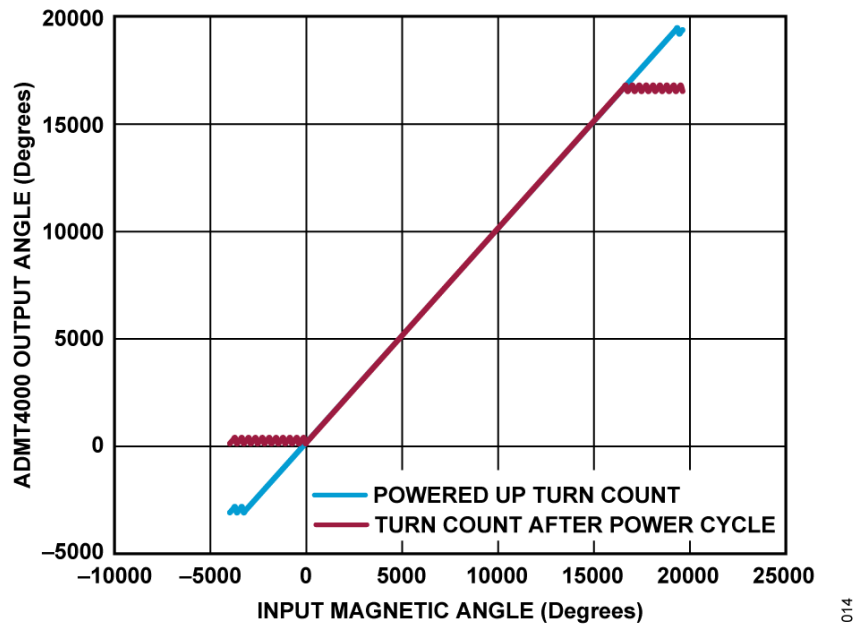

Figure 14. Turn Count Behavior vs. Input Magnetic Field Angle
There are three sensors in the ADMT4000, a GMR turn count sensor, a GMR quadrant detector, and an AMR angle sensor. The initial position is determined by the GMR turn count sensor with subsequent turn count positions derived from the AMR angle sensor combined with GMR quadrant detector. The GMR turn count sensor in the ADMT4000 provides true power-on turn count capability. When powered down, the ADMT4000 tracks the number of rotations of the external magnetic field between the 0 to 46 turn range shown by the red curve in Figure 14. On power-up, or at the start of a conversion sequence, the initial absolute position of the system is derived from the GMR turn count sensor combined with the AMR angle sensor (combined with the GMR quadrant detector) and is reported in the Absolute Angle Register. The GMR turn count sensor is used as the turn count reference for each measurement sequence in the one-shot mode but only for the initial sequence in the continuous conversion mode. The AMR angle sensor derived turn count has a range of -9 to 54 turns (blue curve in Figure 14). However, true power-on capability is only available in the 0 to 46 turn range of the GMR turn count sensor. If the external magnetic field is rotated beyond this range in the power-off state, the reported angle can be incorrect with no FAULT flag set after the next power-on. The extended range of the AMR angle sensor derived turn count is to facilitate system calibration only and should not be used in the normal operation of the part.
The GMR turn count sensor is decoded once during each measurement sequence and is used to verify the AMR angle sensor derived turn count. Figure 14 shows the behavior of the GMR turn count sensor derived turn count (red) and the AMR angle sensor derived turn count (blue):
- ▶ The turn count cross check flag, Bit D13 in the FAULT register, is set high if the difference between the GMR turn count sensor derived position and the AMR angle sensor derived position exceeds 0.5 turns. For example, if the turn count is out of range of the GMR turn count sensor shown by the red curve in Figure 14. The FAULT flag, Bit D13, is not set if this happens while the part is powered down or if the part is in the one-shot mode.